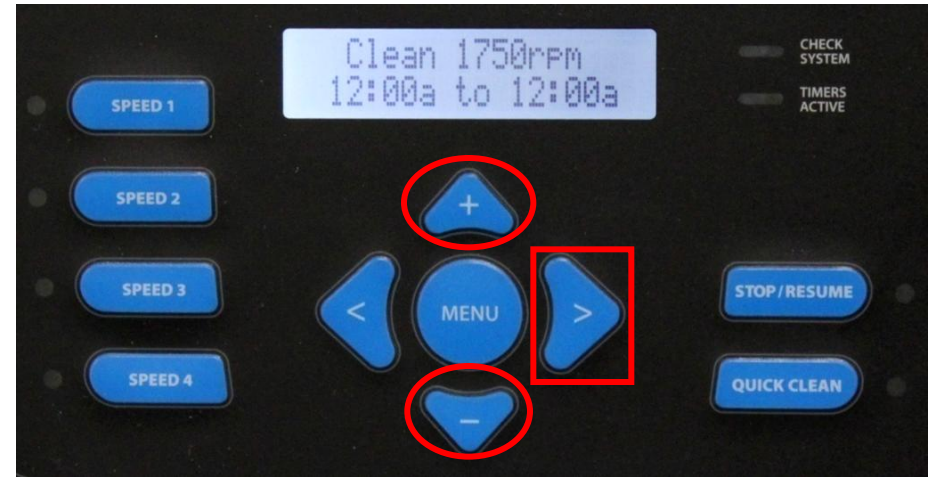

Fig 56
- This screen will allow you to change the start and stop time for the specific timer. Start time will be blinking, press the **+** & **-** buttons to change. Press the **>** button to change the stop time, also using the **+** & **-** buttons (fig 56). Press the **>** button to continue.